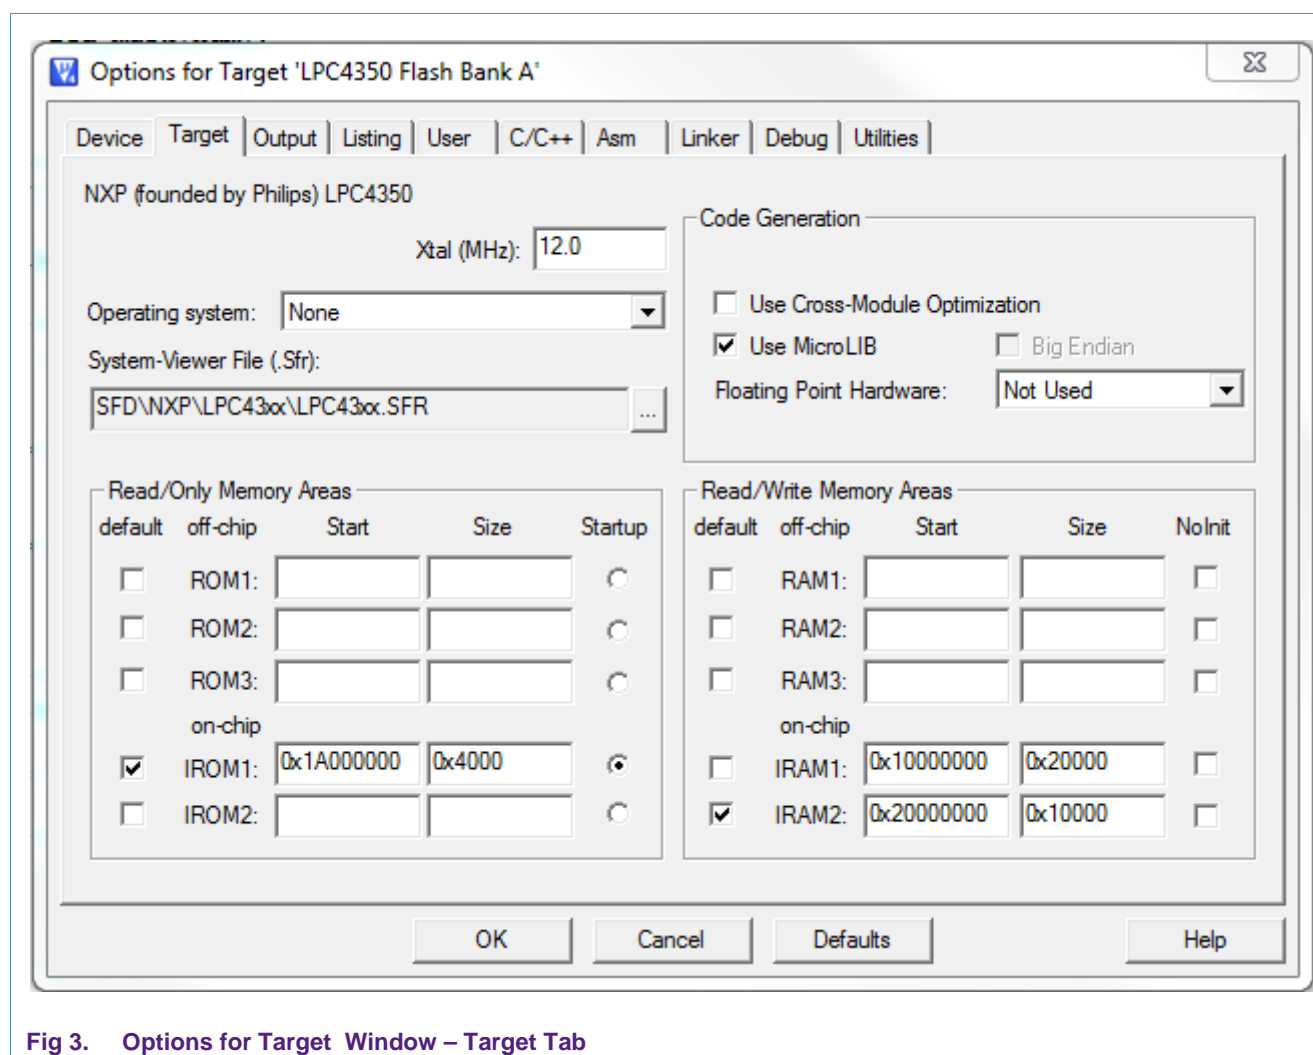

Fig 3. Options for Target Window – Target Tab
- Select 'LPC4350 Flash Bank A' from Select Target drop-down menu and click Target Options button  next to it; 'Options for Target LPC4350 Flash Bank A' window pops up with 'Target' tab active. Select internal ROM address as 0x1A000000 with size 0x4000; it is sufficient for this demo. Leave the RAM address as-is; the rest of the settings will remain the same as shown in Fig 3.